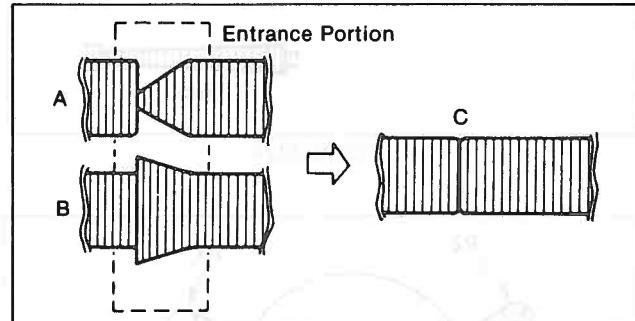

Figure M22
4. If the RF envelope appears like example "A" or "B" in Figure M22 then adjustment of the tape guide post (P2 : Entrance) is necessary.
5. Adjust the tape guide post (P2) with the post adjustment screwdriver so that the RF envelope waveform at the entrance portion becomes flat as shown in Figure M22—"C".